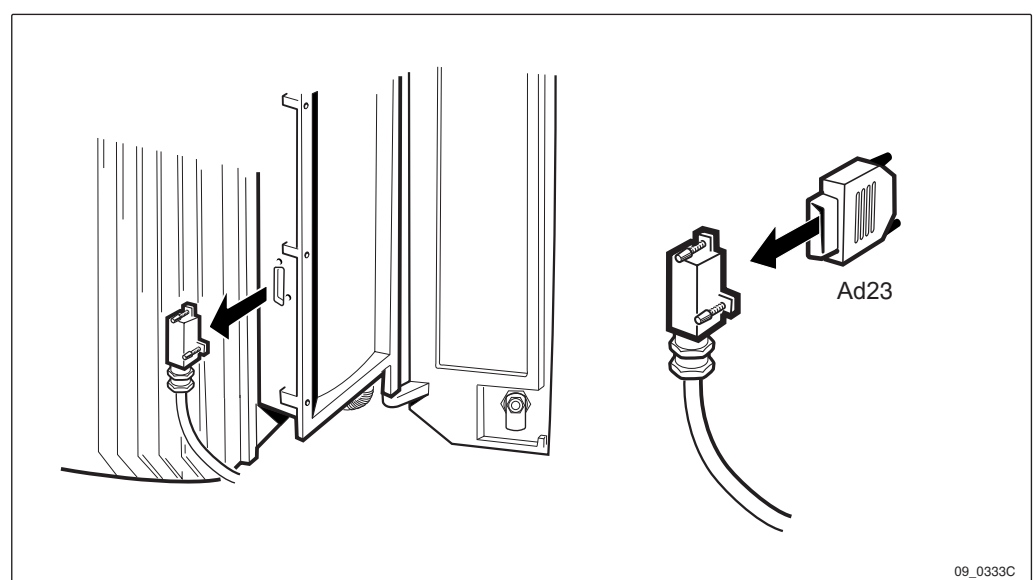

Figure 151 Mounting the adapter
15. Disconnect the adapter and reconnect the transmission network cable in the installation box, *see Figure 151 on page 209*.